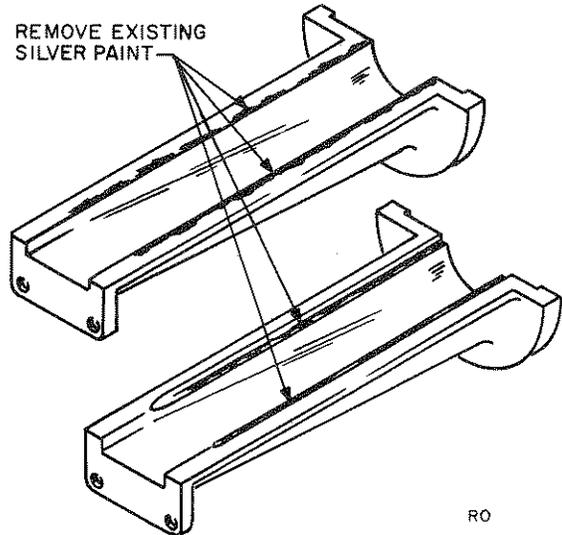
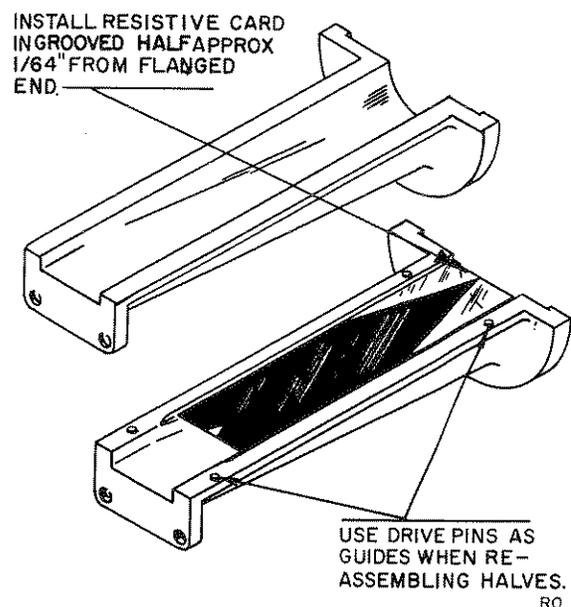

Figure 12. Removal of Silver Paint from End Section
Figure 14. Installation of Resistive Card in End Section
- (2) Drive locator pins from end section (see Figure 14).
- (3) Remove screws and separate halves.
- (4) Refer to Figure 12. Remove silver paint from both halves with acetone.
- (6) Install end card with emulsion (deposited) side up in recessed half of the end section as shown in Figure 14.
- (7) Replace top half. Seat drive pins with pliers.
- (8) Install screws with heads up.
- (9) Check card for wrinkles. If necessary, remove wrinkles as described in step b(12).
- (10) Install choke and/or bearing ring. Make sure parts are properly seated.